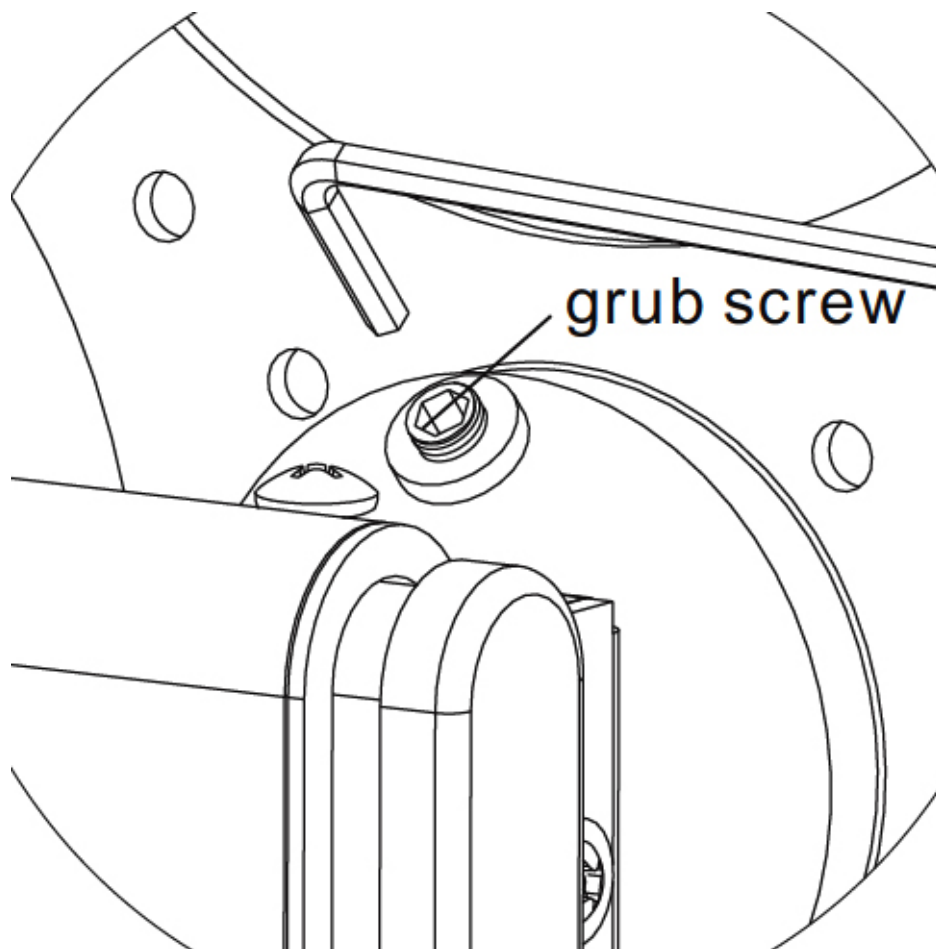

Figure 4b
2. Adjust the monitor's tilt angle, use an **Allen Key (o)** to loosen the **Grub Screw**, then tighten the Grub Screw to fix the tilt angle as shown in **Figure 4b**.